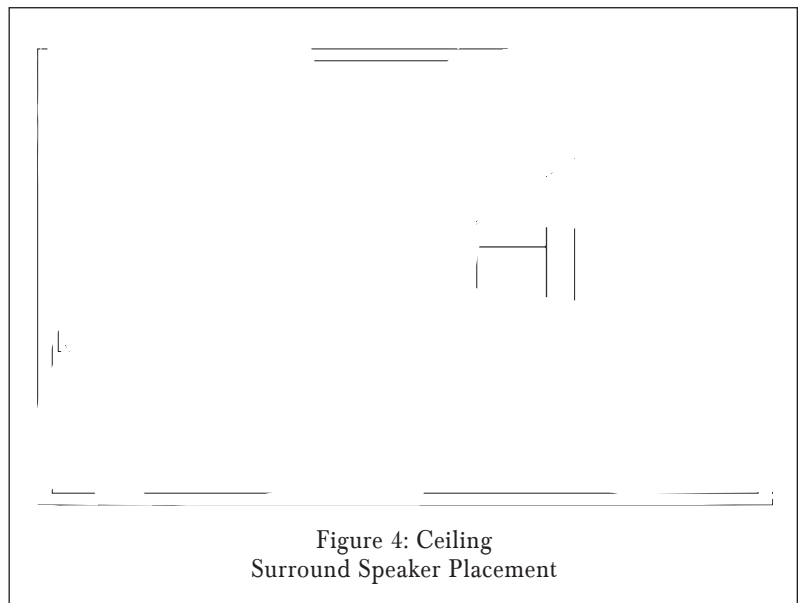

Figure 4: Ceiling Surround Speaker Placement
**Ceiling mounting:** Locate the left and right surround speakers on the ceiling between 2 feet and 4 feet behind the listening position. The speakers should be between 8 feet and 12 feet apart, with their woofers towards the listeners. Use *Figure 4* as a guide.